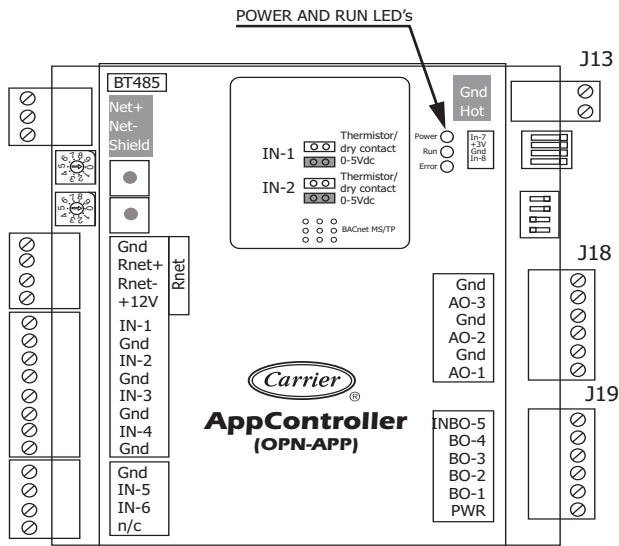

Fig. 4 — LED Locations
- 3. Verify that the Power LED is on and the Run LED is blinking on the controller module. See Fig. 4 for Power and Run LED locations.